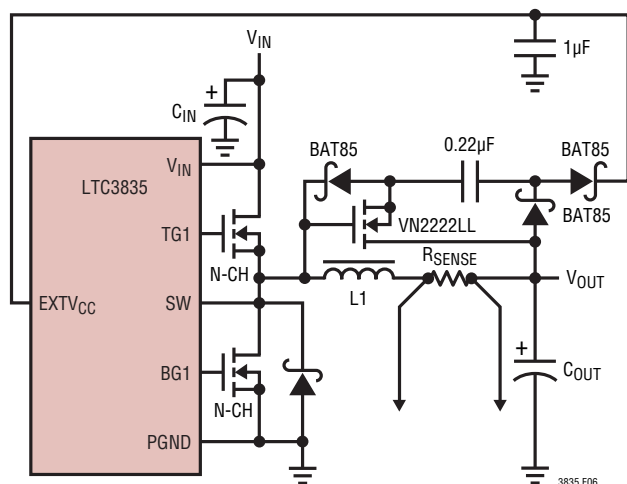

Figure 6. Capacitive Charge Pump for  $EXTV_{CC}$
The optional Schottky diode D1 shown in Figure 6 conducts during the dead-time between the conduction of the two power MOSFETs. This prevents the body diode of the bottom MOSFET from turning on, storing charge during the dead-time and requiring a reverse recovery period that could cost as much as 3% in efficiency at high  $V_{IN}$ . A 1A to 3A Schottky is generally a good compromise for both regions of operation due to the relatively small average current. Larger diodes result in additional transition losses due to their larger junction capacitance.
4.  $EXTV_{CC}$  Connected to an Output-Derived Boost Network. For 3.3V and other low voltage regulators, efficiency gains can still be realized by connecting  $EXTV_{CC}$  to an output-derived voltage that has been boosted to greater than 4.7V. This can be done with the capacitive charge pump shown in Figure 6.